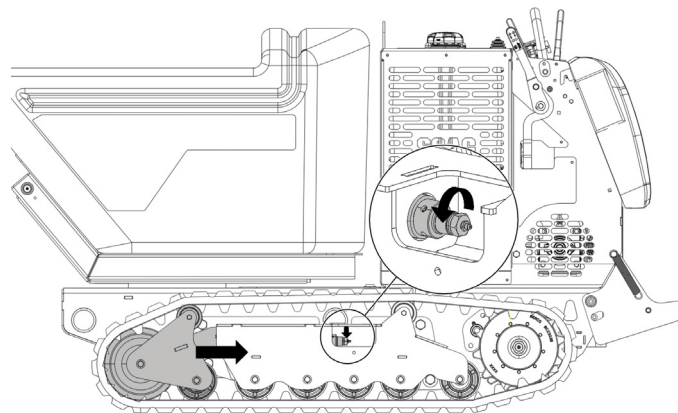

Figure 6-16. Releasing Track Tension
5. Loosen the cylinder tensioner until all the grease is released to release track tension. The tensioner will retract the front idler, producing slack to remove the track. See Figure 6-16.